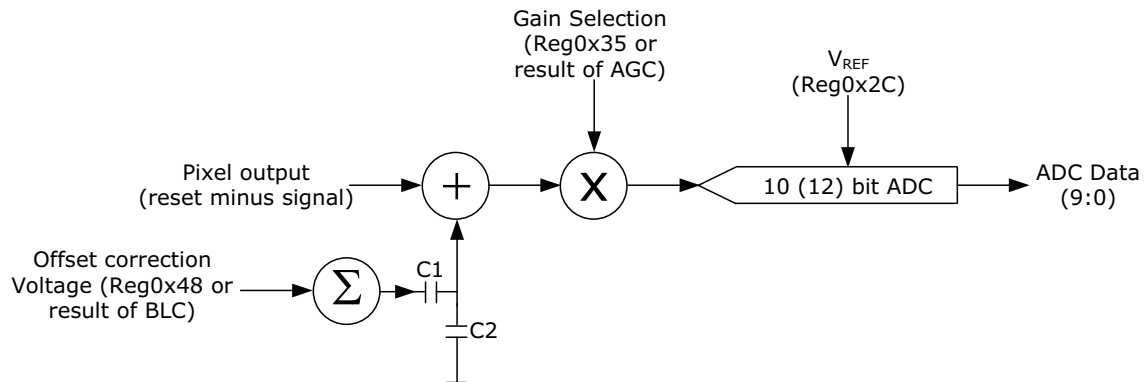

Figure 64: Signal path of MT9V022 (Guppy F-036 with CMOS sensor)
- Figure 64: Signal path of MT9V022 \(Guppy F-036 with CMOS sensor\) on page 116